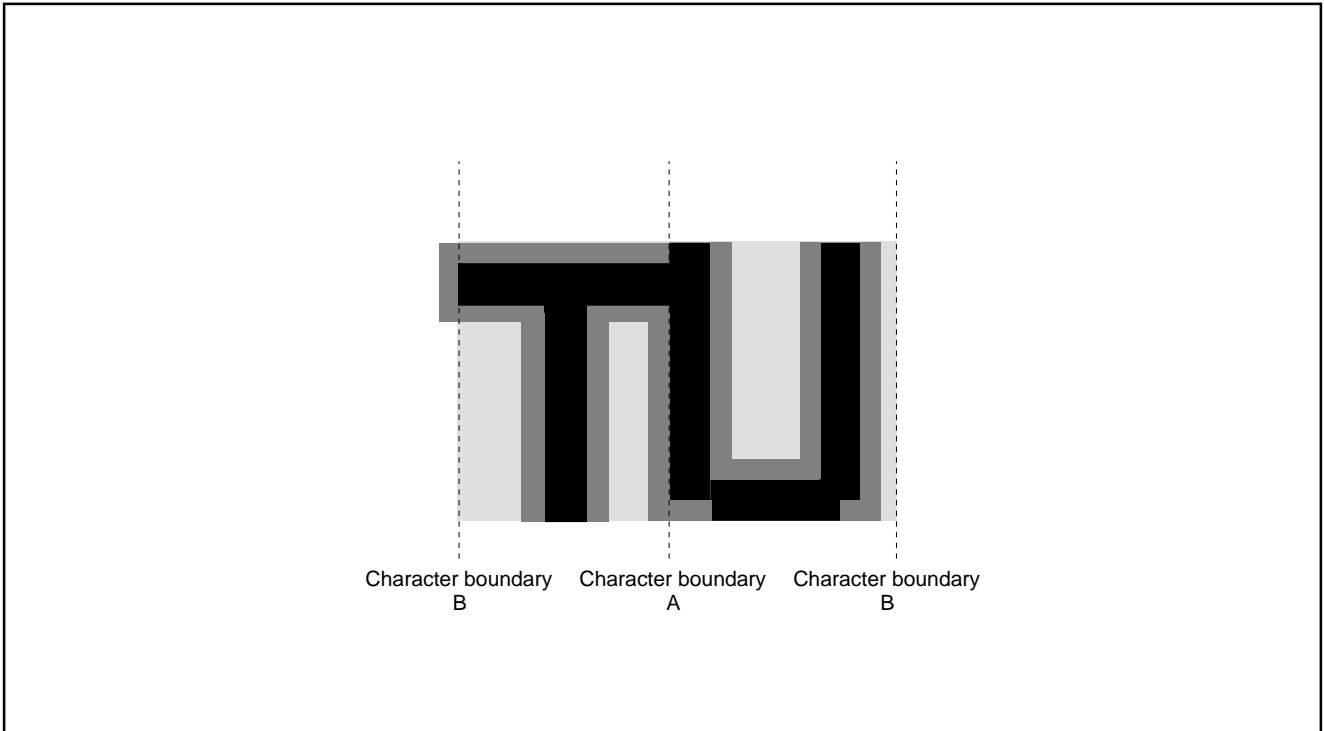

Fig. 74. Border Priority
**2** : When the border dot overlaps on the next character font, the character font has priority (refer to Figure 74 A).
When the border dot overlaps on the next character background, the border has priority (refer to Figure 74 B).